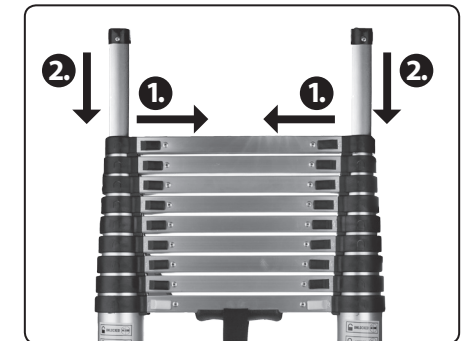

Fig. 10
3. The end (support) parts of the tube will not automatically slide in when the ladder is retracted, and must be unlocked and manually inserted each individually (fig. 10).